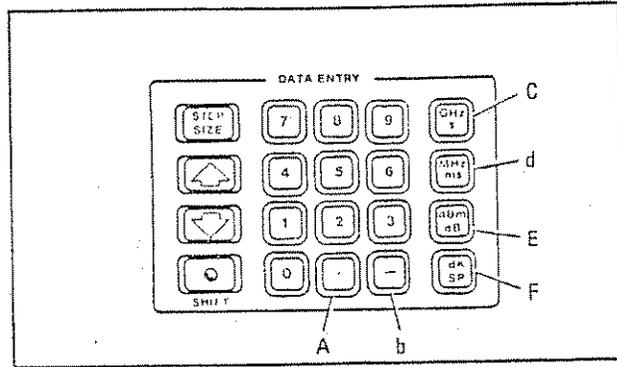

Figure 5-9 Front Panel Hexadecimal-Entry Keys
2. On the 8350A, press [SHIFT 00 2 GHz 8 0 ↑ 0 0 ↑ 0 0 ↑ 0 0 ↑ 0 01]. Refer to Figure 5-9 for a diagram of the 8350A front panel Hexadecimal Entry Key locations. The 8350A FREQUENCY display should now show 2C83 and the FREQUENCY/TIME display should show 00.